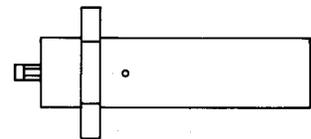

Fig. 17—441B Plug
2.15 **441B:** The 441B plug (Fig. 17) is a single, coaxial-type, 75-ohm, hermetically sealed device, consisting of a metal cylindrical body. The cylindrical body has a metal contact finger assembled concentrically with the body by means of an insulator for connection to a 558A jack at one end. The body, with the contact finger, is assembled to a metal shell. This plug is used in the L4 Mastergroup Multiplex.